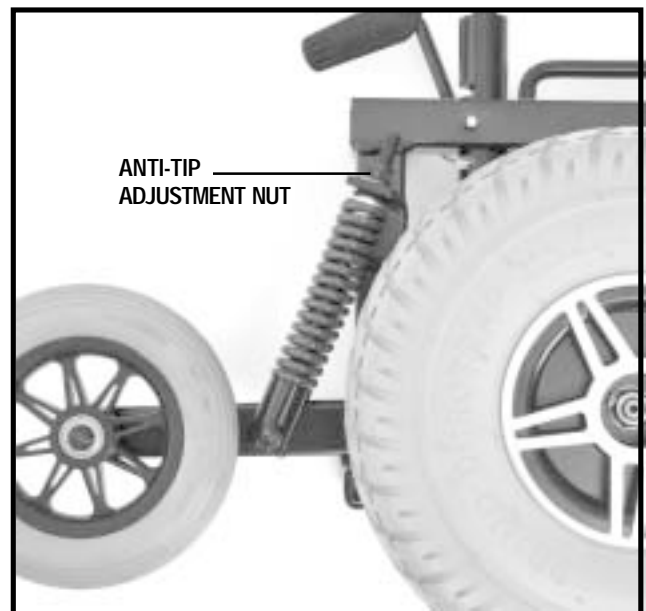

Figure 27 Anti-tip Wheel adjustment
8. Locate the anti-tip adjustment nut. See figure 27.